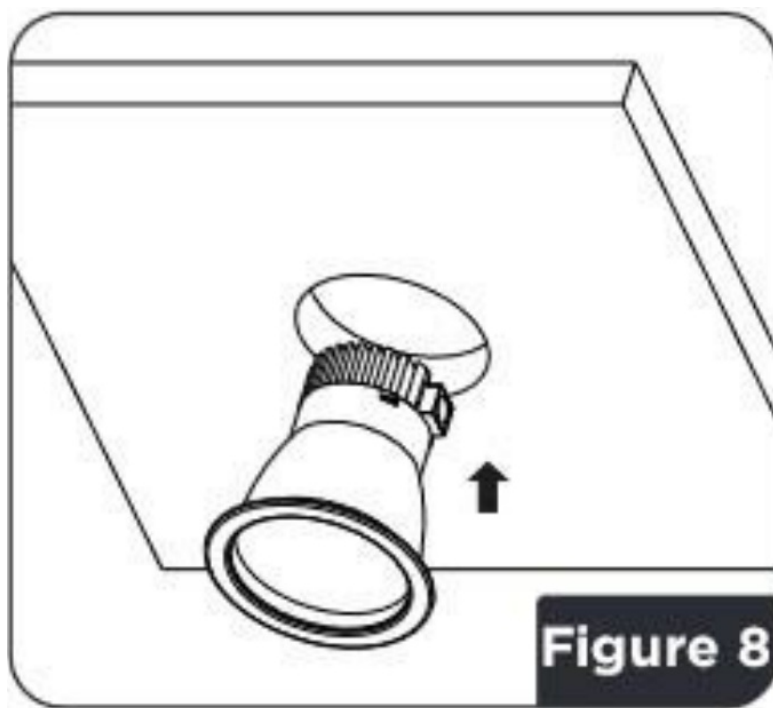

Figure 8
11. Push the reflector and light engine into the ceiling cavity. The retaining clips attached to the mounting frame will keep the luminaire snug against the ceiling (**Figure 8**).